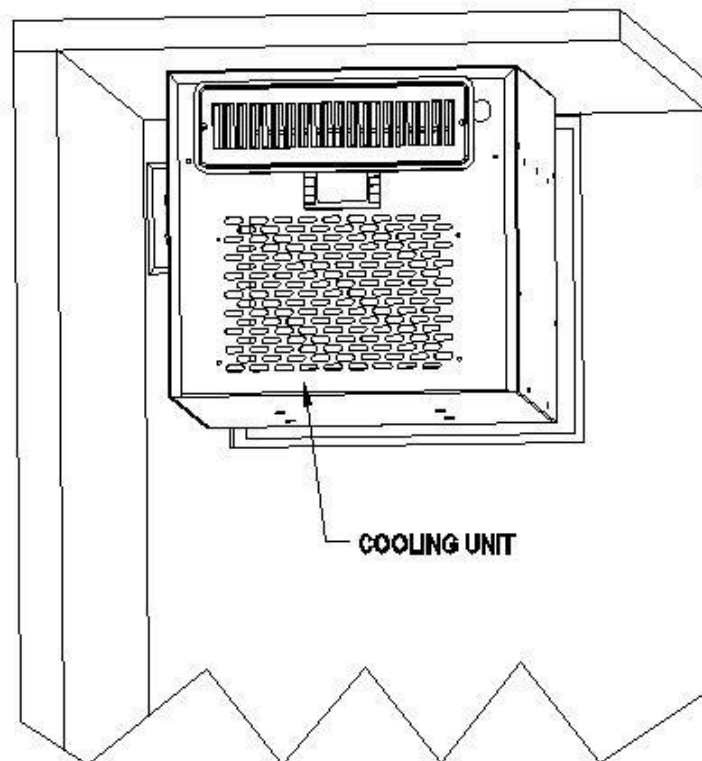

Fig. 2.5 COOLING UNIT MOUNTING
- Move the cooling unit towards the mounting sides and push to press the gaskets (see Fig 2.5).